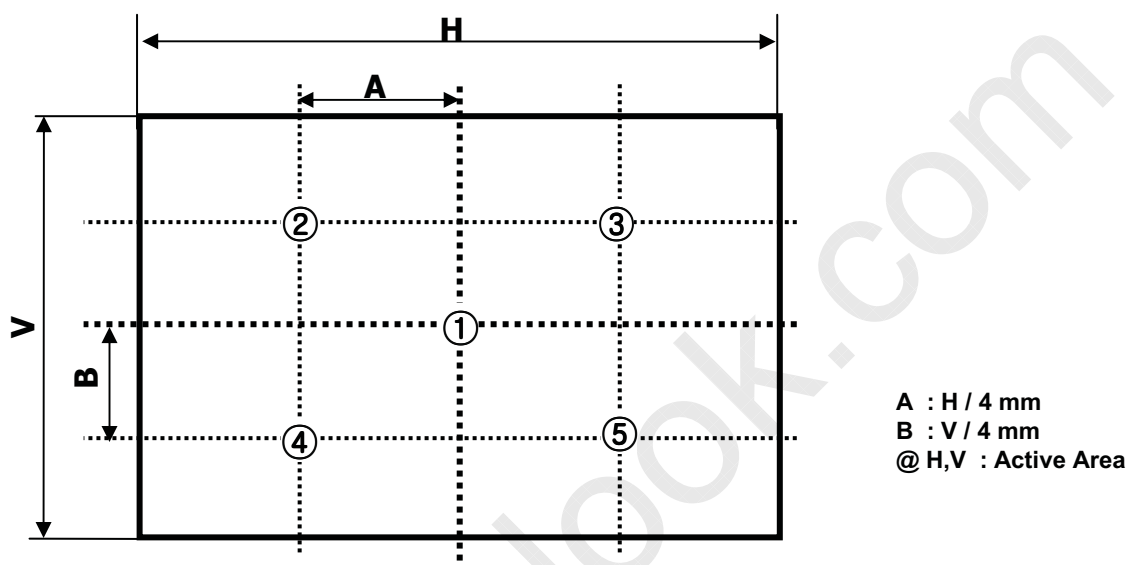

FIG. 2 5 Points for Luminance Measure
2. Surface luminance are determined after the unit has been 'ON' and 1 Hour after lighting the backlight in a dark environment at $25 \pm 2^\circ\text{C}$. Surface luminance is the luminance value at center 1-point across the LCD surface 50cm from the surface with all pixels displaying white. For more information see the FIG. 2.
Where L_{on1} to L_{on5} are the luminance with all pixels displaying white at 5 locations . For more information, see the FIG. 2.